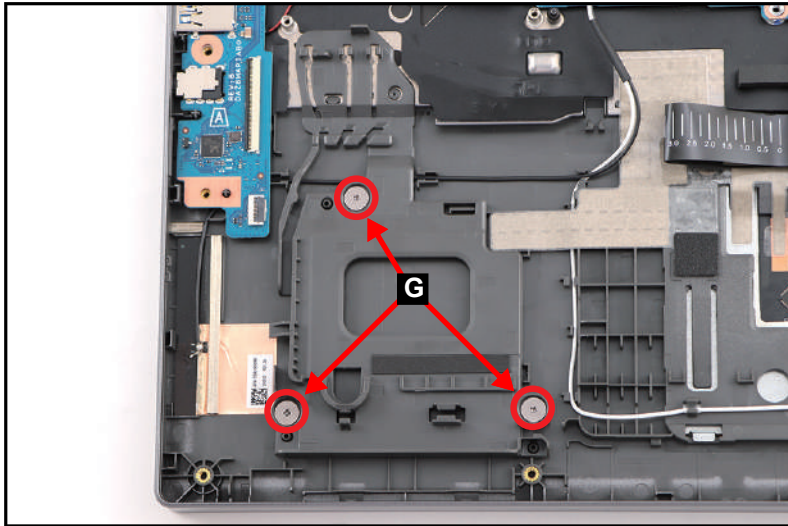

Figure 3-16. Smart Card Holder Removal
5. Remove three (3) screws (G) securing the smart card holder (Figure 3-16).